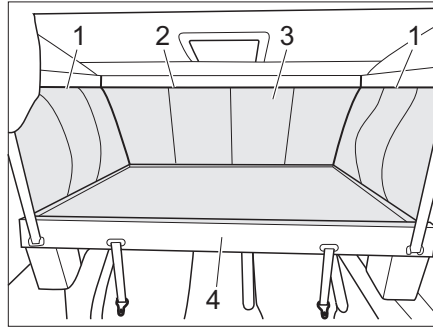

Fig. 79 Access to the blind box
- Lower the pull-down bed (Fig. 79,4) (see section 7.15.3).
- In order to release the pull-down bed sack (Fig. 79,3), open the side zips (Fig. 79,1) in the upper and front area from the front to back (Fig. 79,2).
- Remove the pull-down bed sack (Fig. 79,3) (Velcro fastener).